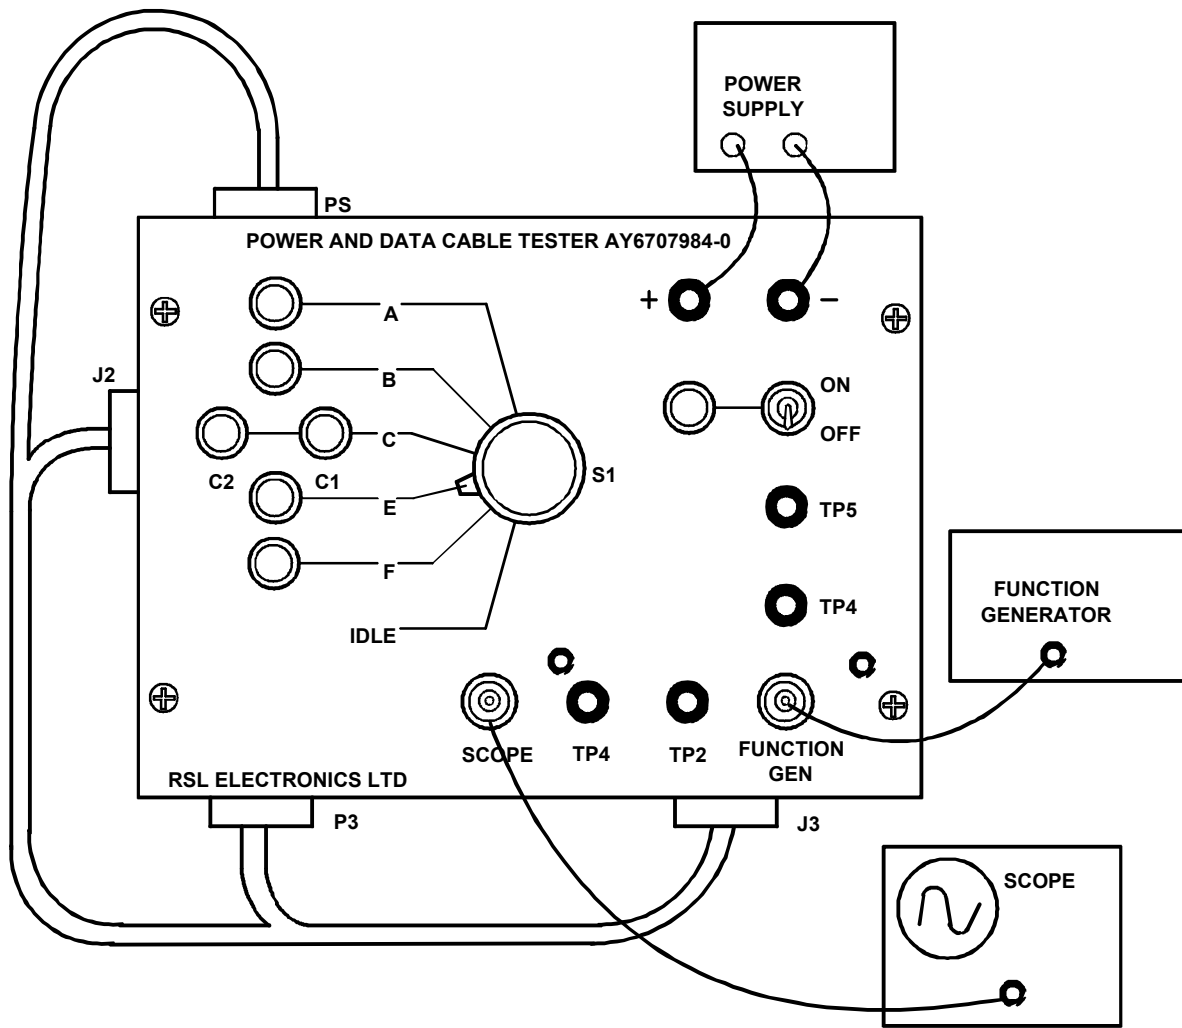

Figure 3-5. Power and Data Cable Test Setup
3.3.6.1 TEST SETUP. Refer to Figure 3-5. Connect test setup as follows:
3.3.6.2 TEST PROCEDURE. Refer to Figures 3-5, 3-6, 3-7, and 3-8. Check cable as follows: